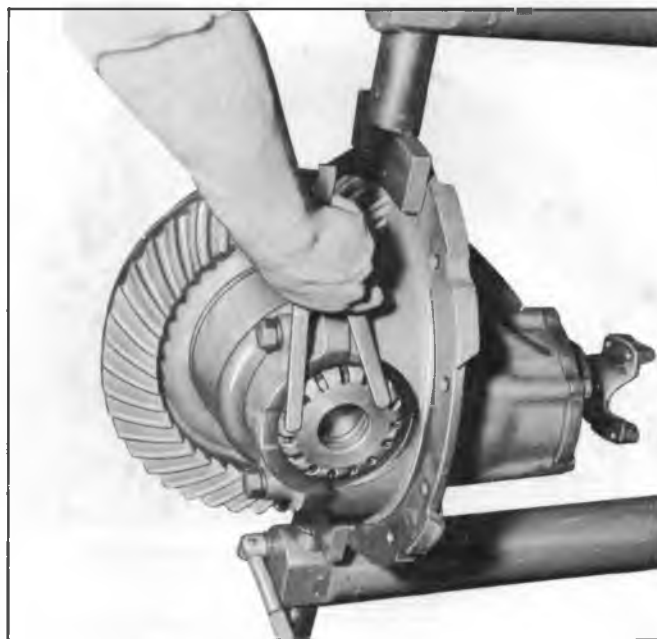

Fig. 15G--Ring Gear and Pinion Adjustment
1. With differential bearing cap bolts loosened just enough to permit turning bearing adjusting nuts with Tool J-0972, remove all lash between ring gear and pinion (fig. 15G).